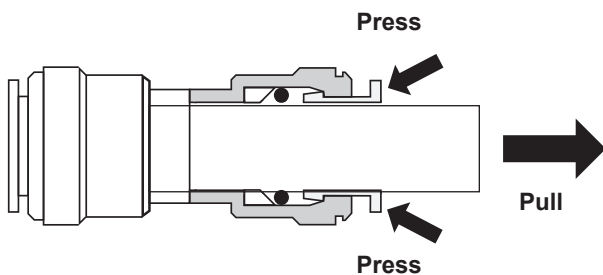

Figure 2
- Use your thumb and index finger to press down on the lock sleeve. Use your other hand to pull out the tube from the fitting (Figure 2).